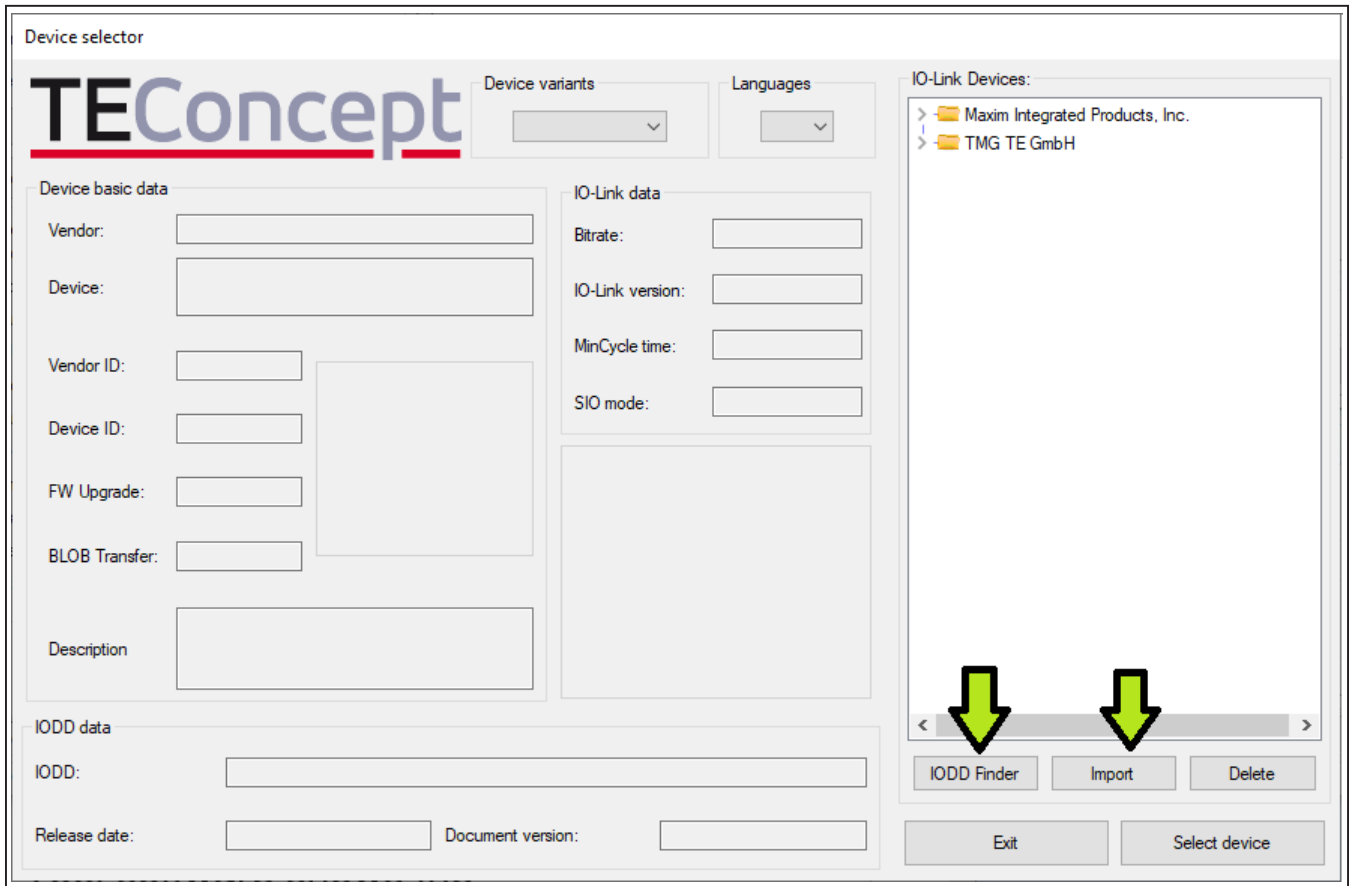

Figure 5. Device Selector.
5) As shown in Figure 5, import the IODD file for the MAXREFDES278#. The TE-Concept GUI also